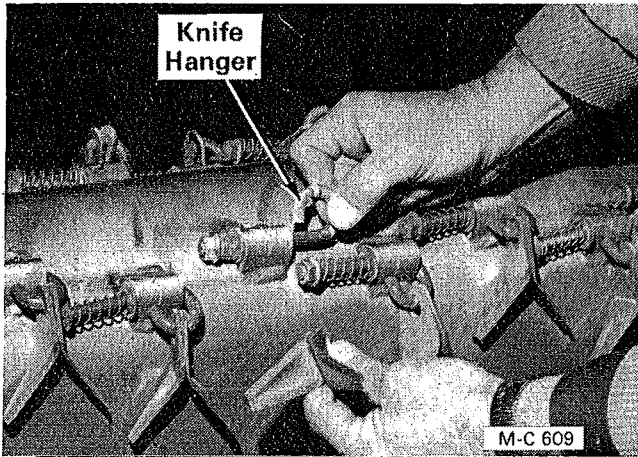
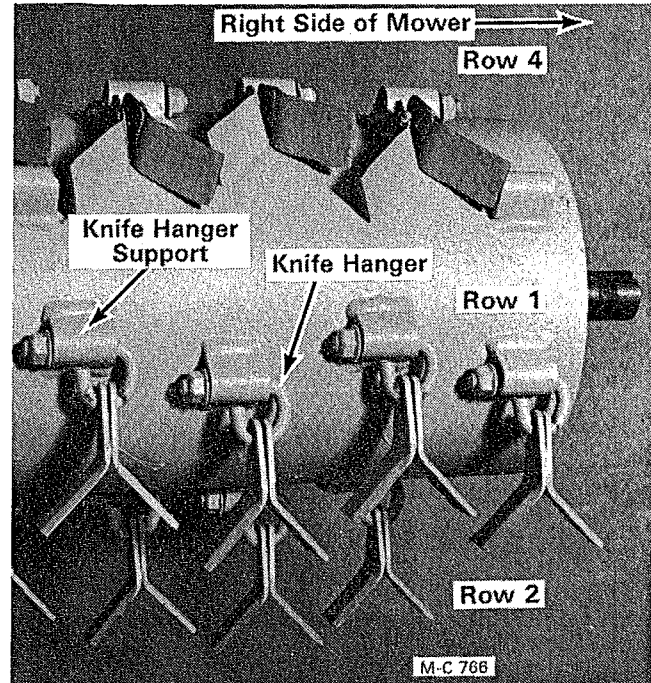

Figure 20 - FM Models - Below S/N 47198
Figure 21 - FM Models - Above S/N 47197
1. **Below S/N 47198** — The knives can be reversed to expose a new cutting edge or replaced by pulling the knife hanger back until it clears the knife hanger support, see Figure 20.
Above S/N 47197 — The knives can be reversed to expose a new cutting edge or replaced by removing the knife hanger, see Figure 21.
NOTE: The tapered knives, shown in Figure 20 and 22, are no longer available. They have been replaced with the new square end knives shown in Figure 21.
IMPORTANT: To get the correct overlap of knives, the hangers must be installed as follows: (See Figure 21 and 22).